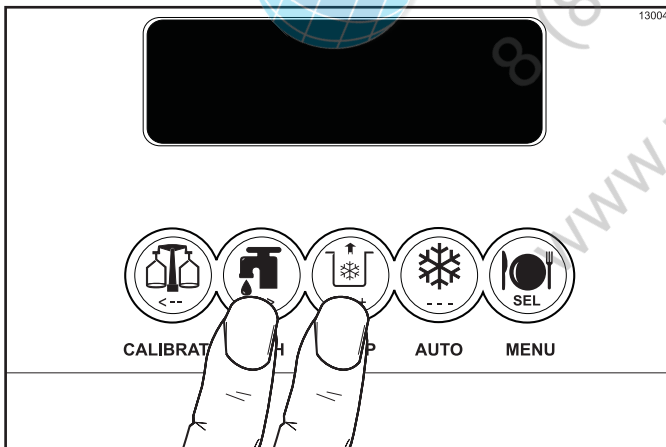

Figure 6-38
13. Press the WASH and PUMP keys to stop the Wash and Pump modes. Close the draw valve. (See Figure 6-38.)